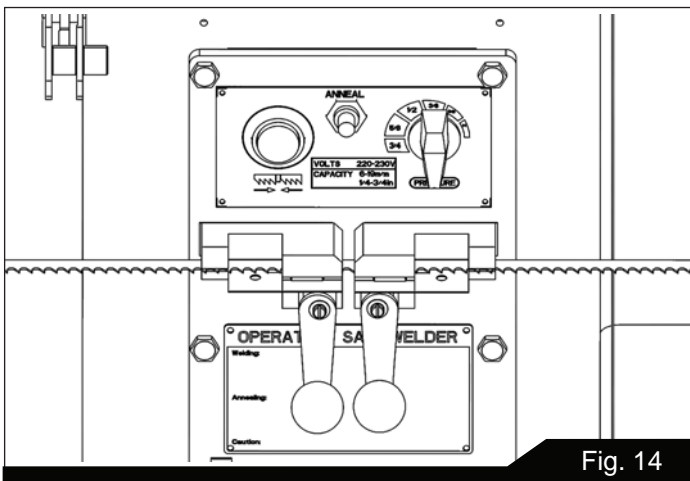

Fig. 14
IMPORTANT: If a blade has been cut by using snips, the ends of the blade must be ground square before welding them together, as shown in Figure 14.
3. Turn pressure knob (Figure 14) to "0" position (pointed downward).
7. Press and hold weld button (Figure 14). When weld button is pushed, the left clamp moves to the right to apply pressure to the blade ends. Simultaneously, sparks will be emitted from the blade ends as they are being welded. Do not release weld button until blade joint is "red hot."
3. Quickly press and release ("jog") the anneal button (Figure 14). Repeat jog process until you see a slightly red glow from weld area.